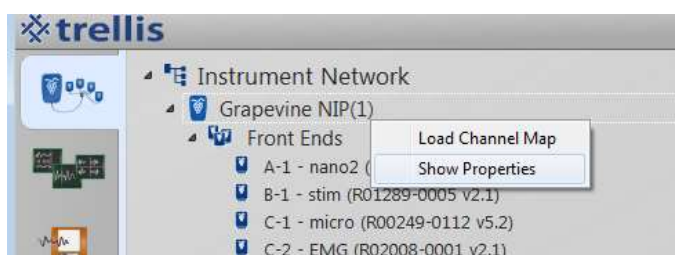

Figure 3-9 Trellis Instruments – Loading a global channel map
- Electrode-to-channel map files can be loaded as shown in Figure 3-9.
Map files allows you to label and arrange channels to match the physical layout of your electrode array. Each map files contain a set of entries, one entry per line. Each line specifies a label and a display location (i.e. x, y) for a Front End channel. Once you load a map, all applications will update to use the specified labels. Also, Spike Grid will update to arrange spike displays according to the specified coordinates. Map files can be loaded from the Instrument Network browser by right clicking on a Grapevine system, e.g., Grapevine NIP(1), as shown in Figure 3-9 below, and clicking on "Load Channel Map". Map files can be cleared by right clicking on the same Grapevine item and clicking "Clear Channel Map".